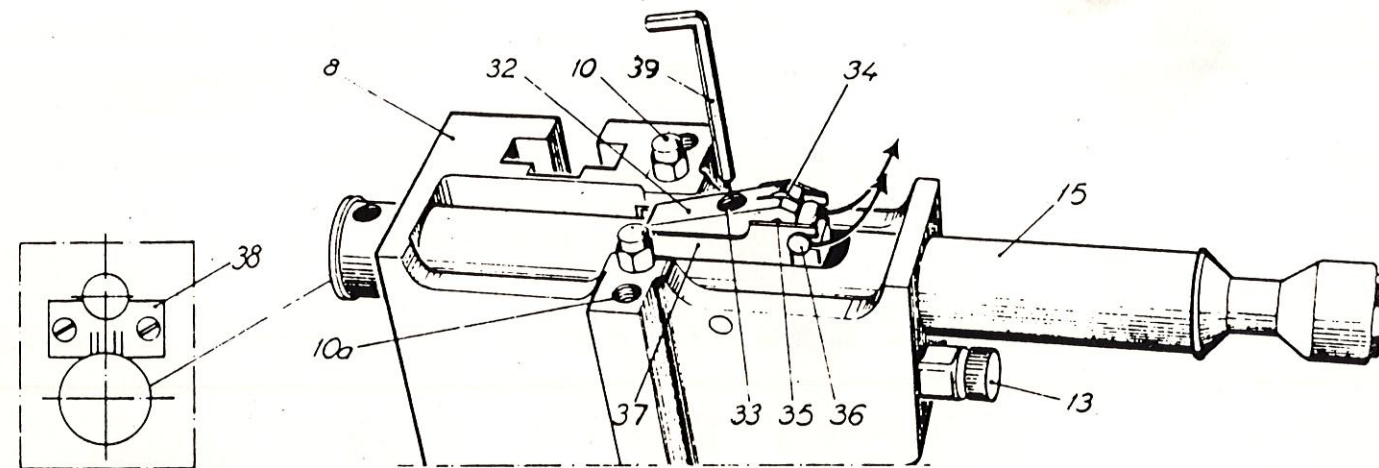

Fig. 8
(see fig. 8)
1. Remove clamping head (8) see step 1 in III. A.
2. Pull out scoring shaft (15) about 40 mm.
3. Hold clamping head as shown in fig. 8 and press down holder (32) of cutter wheel with thumb and remove locking pin (36). (If it is difficult to press down the holder (32) loosen screw (33) by turning it counterclockwise).
4. Place clamping head (8) on table and push out cutter wheel's shaft (35) with e.g., a paper clip and remove wheel (34).
6. Replace pin (36).
7. Replace clamping head (8), see step 3 in III. A.
| 32. Cutter wheel holder (see fig. 8).                  |